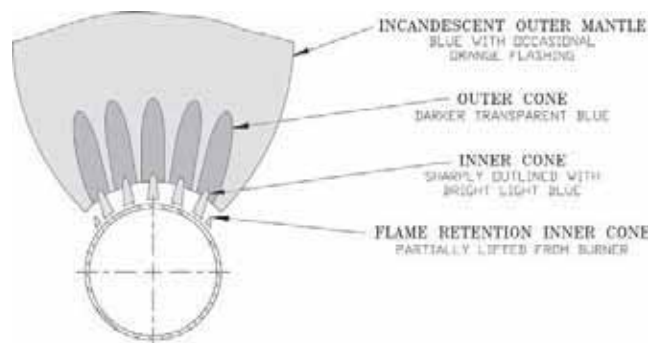

Figure 47A: 40mm Main Burner Flame
K. Check main burner flame. See Figures 47A and 47B. Flame should have clearly defined inner cone with no yellow tipping. Orange-yellow streaks should not be confused with true yellow tipping.